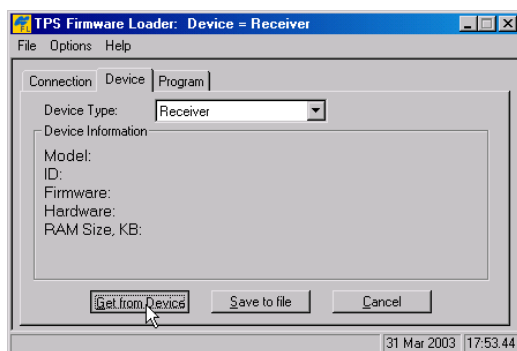

Figure 5-19. Set Device Type
1. In FLoader, click the **Device** tab, and set the *Device Type* to “Receiver.” Click **Get from Device** for device information (Figure 5-19).